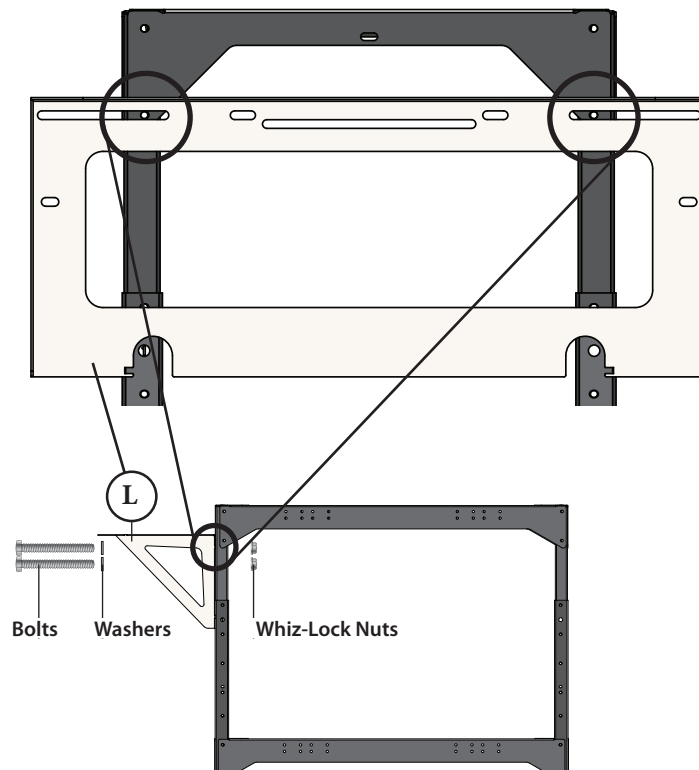

FIG. 9
Attach the Dual Filter Plate (L) to the stand using the stand's pre-installed hardware as shown in [FIG. 9].